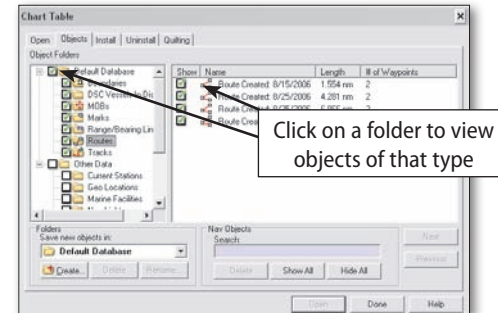

Figure 7.10 - Objects Tab of the Chart Table
2. In the left menu, expand the folder for the data type you wish to change the view settings for (see **Figure 7.10**). Place a check mark next to the item type or select **All Visible** to make data of that type visible. **None Visible** makes all data of that type invisible on the chart.